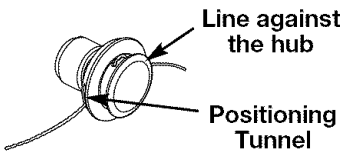

Fig. 12
5. Pull the line and make sure the line is against the hub and is fully extended through the positioning tunnels (Fig. 12).